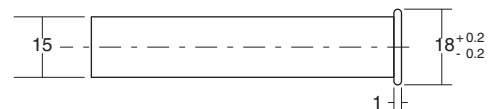

**Fig. 7. External thread connection with nut and "O"-ring**
- ❹ With  $\frac{3}{4}$ " nut and "O"-ring (see fig 7.)